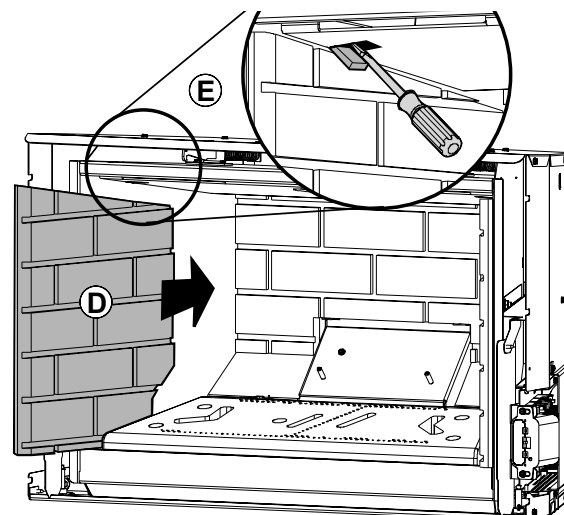

Fig. 7.12
3. Slide each Side Panel (D) into position flat against the firebox side, resting the bottom edge on the support shelf. Fig. 7.12.